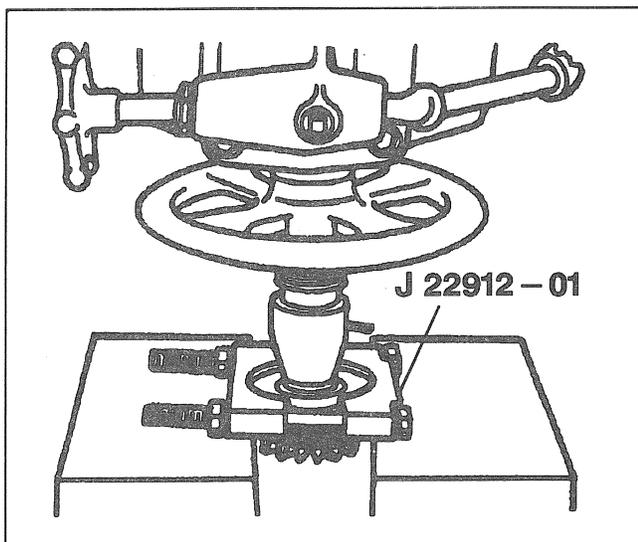

Figure 11—Removing the Thrust Sleeve
4. Governor assembly (48).
5. Latching bracket assembly (43).
6. Left side gear (46).
7. Left side clutch plates (44) and guide clips (47).
8. Left side gear thrust washer (45).
9. Reaction blocks (41), pinion yoke (42), pinion gears (39), and pinion thrust washers (38).
11. Right side gear thrust washer (36).
- Measure and record the overall length of the gear assembly from the front of the gear to the back of the thrust sleeve (35) including the side gear thrust washer (36).
12. Thrust sleeve (35) using J 22912-01.
- Press the sleeve from the side gear (Figure 11).
13. Clutch plates (37).
14. Guide clips (34).
15. Wave washer (15).
16. Cam plate (33).
17. Side cam gear (40).